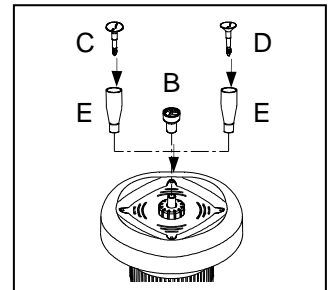

Fig. 1
1. Choose a fountain head for the desired water effect, and assemble your choice as shown in Fig. 1.